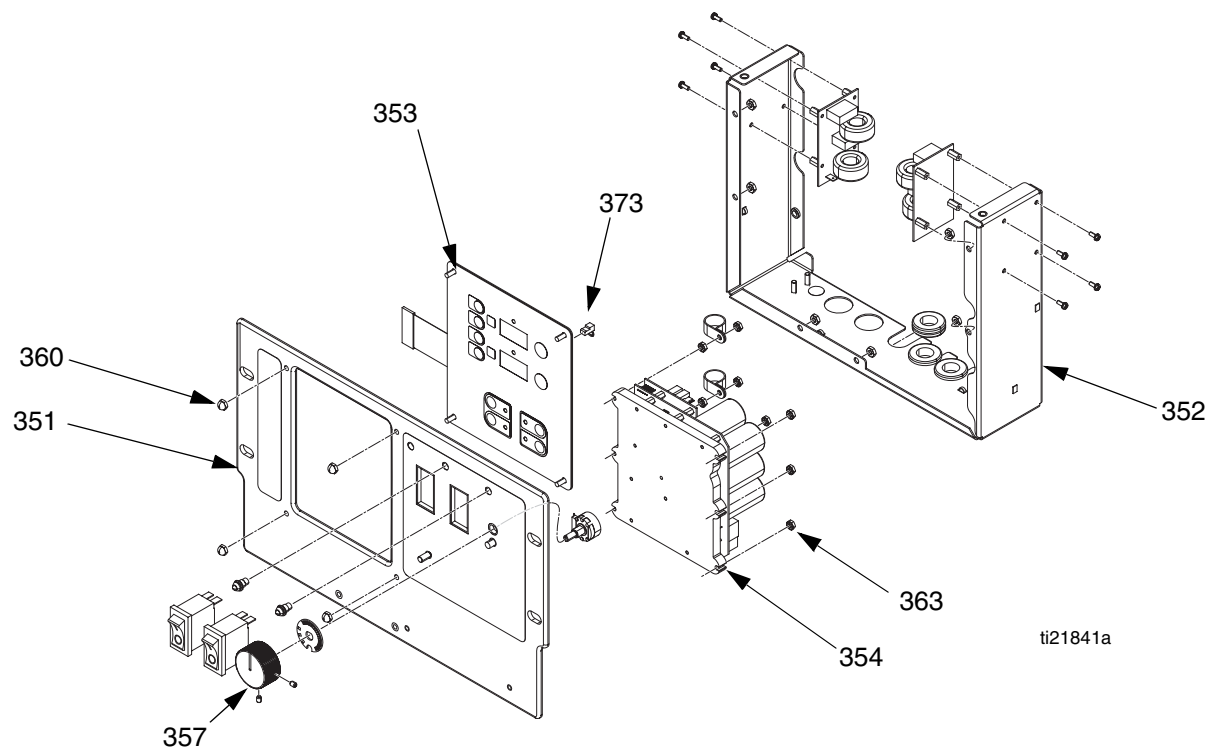

FIG. 10: Control Panel
2. Remove screws (21) and display cover (26).
4. Disconnect main display cable (81) from upper right corner of temperature display (353). See FIG. 10.
5. Remove jumper (373) from back of display (353). Set aside and install jumper on new display.
6. Disconnect ribbon cable(s) (R) from back of display; see FIG. 10.
7. Remove nuts (360) from plate (351).
8. Disassemble display (353), see detail in FIG. 10.
9. Reassemble in reverse order, see FIG. 10. Apply medium strength thread sealant where shown.
3. Disconnect all cables and connectors from board (354). See Table 8, page 46.
4. Remove six nuts (363) and remove board from control board (354). See FIG. 10, page 44.